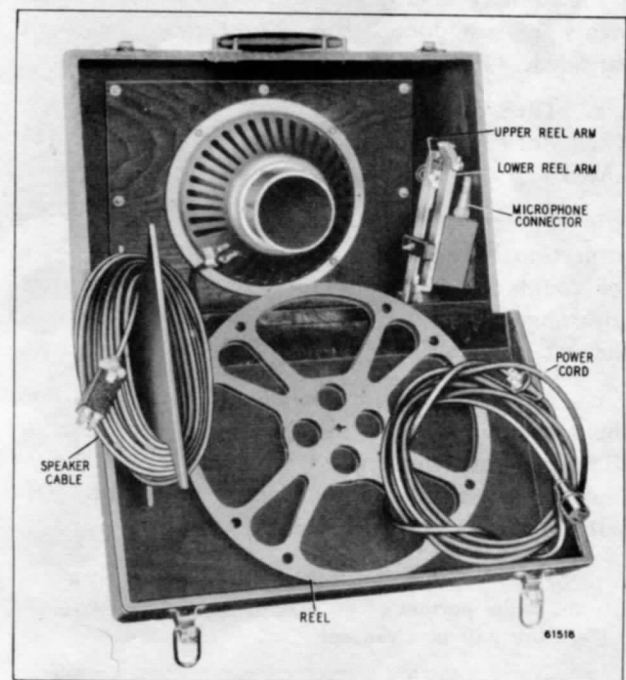
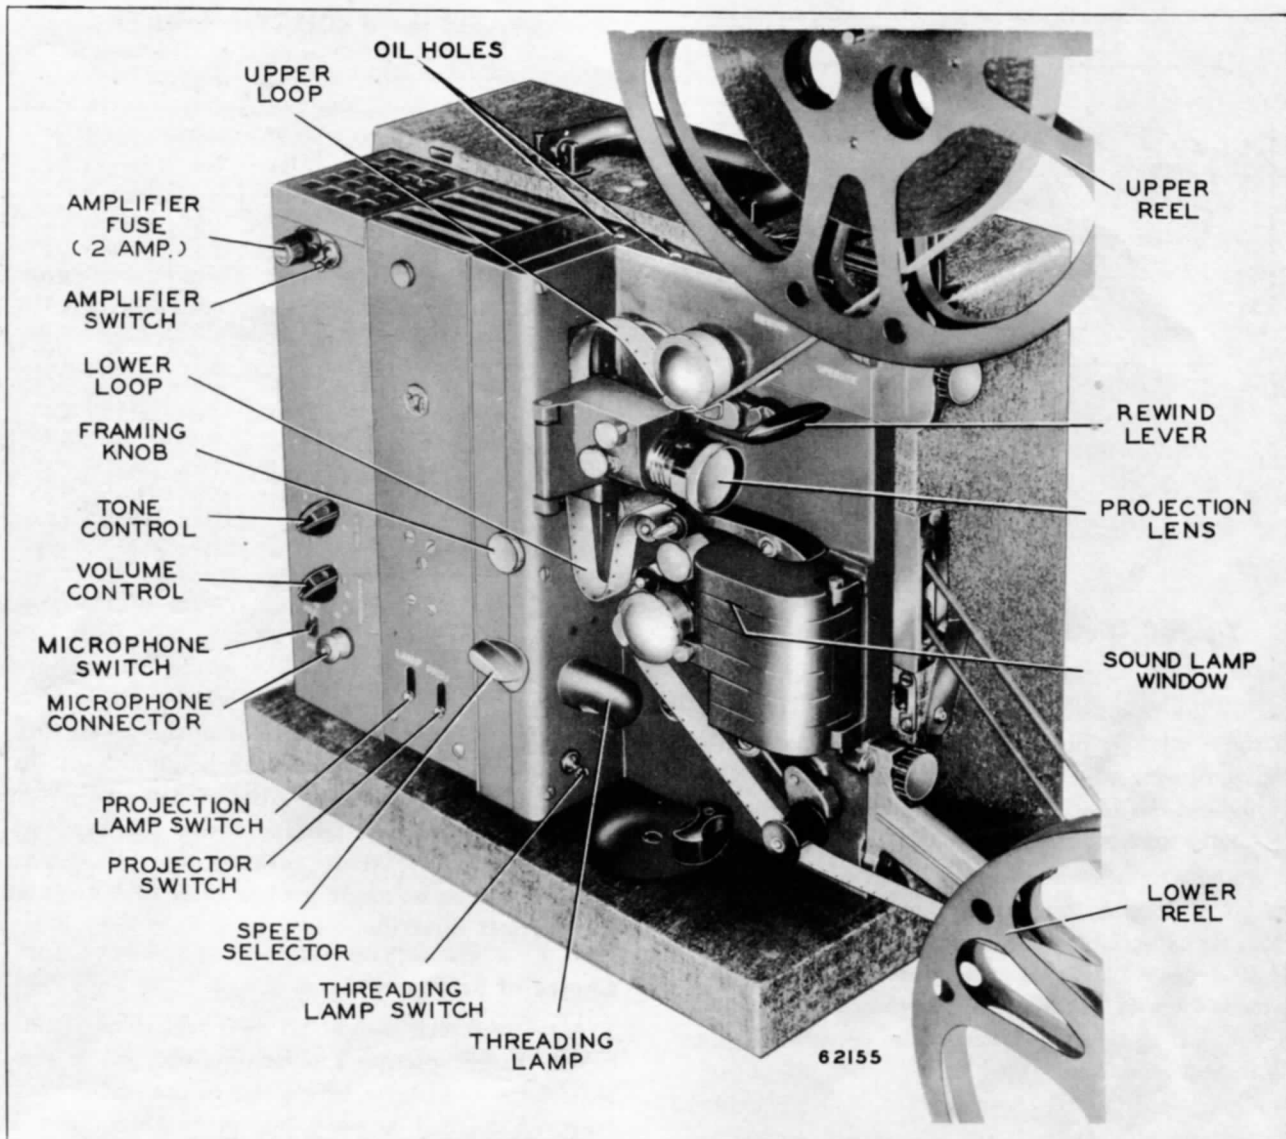

Figure 3—Loudspeaker and Carrying Case
Figure 7—Operating Controls
c. Remove the accessories contained in the speaker case (fig. 3) and leave them near the projection table. Then carry the speaker to the projection screen and place it on a chair below the screen, with the grille side of the speaker facing the audience.
Sound Pictures. When sound pictures are to be projected, proceed as follows (see figure 7):
a. Set the speed selector (fig. 7) to SILENT (up). This decreases the speed to that appropriate to silent pictures.
When the show is over, put away the equipment in the two carrying cases. Take off the two reels and the two reel arms. Push the two spring belts into the projector case and turn the latches to keep them in. Turn the tilting control clockwise as far as it will go. Put on the front cover. (If operation has been on direct current, refer to section Operation on Direct Current.) Put the two reel arms in the speaker case as shown in figure 3. Coil the speaker cable and the power cord and put them in the case. Put the empty reel against the speaker field magnet so that it is held there securely by the magnetism.
When the public address connection is used, the microphone switch is set in the MIC position and the amplifier switch in the AMPL position. Tone and volume are adjusted with the TONE and VOLUME controls on the amplifier panel. Either a microphone or a phonograph pickup may be used. The cable of each of these devices must be provided with a microphone connector (fig. 3) which fits the connector (fig. 7) on the amplifier panel. For suitable microphone, phonograph, pickup, cable, and connectors, consult the dealer.
a. *The fuse (fig. 7)*, which is mounted at the top of the amplifier panel, can be replaced without removing the amplifier cover. Unscrew the red cap (a dime may be used), put in a 2-ampere fuse *only*, and replace the holder.